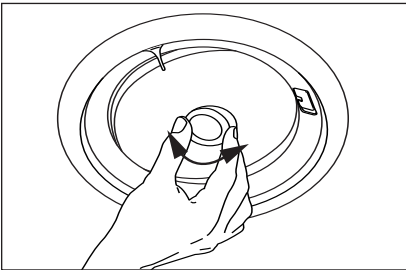

Figure 19 Directing the tweeter.
8. Direct the Tweeter. The tweeter is directed by gently pushing on the edge of the tweeter housing. (See Figure 19). It will move 17° in any direction. For critical listening, point the tweeter to the user's favorite listening position minimizing reflections from the side walls. For surround sound or low volume background listening create more reflections and thus more ambience by directing the tweeter towards the side walls.